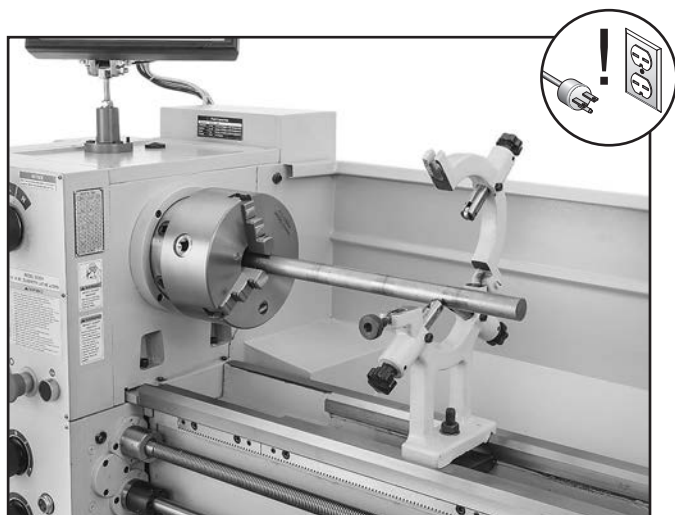

Figure 56. Example of workpiece mounted in the steady rest.
4. Loosen the clamp knob that secures the two halves of the steady rest and open the top portion, as shown in **Figure 56**.
6. Use the finger adjustment knobs to position the bottom two finger rollers against the workpiece, as shown in **Figure 56**.